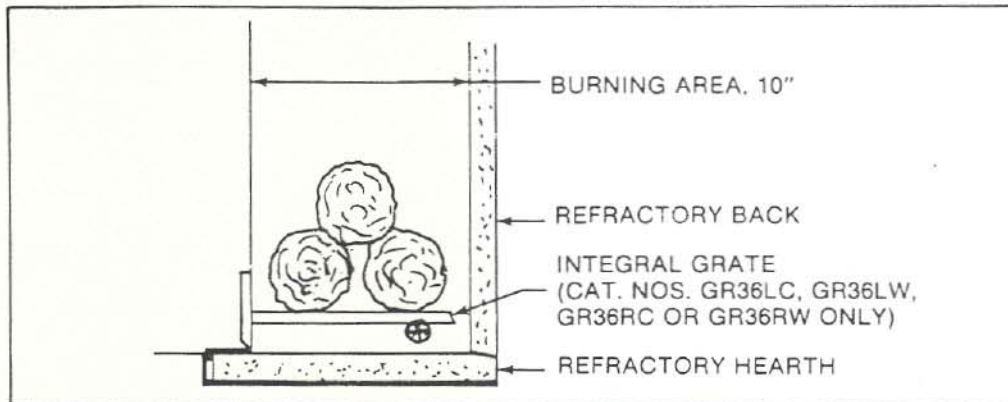

Figure 2
- E. **GRATE.** The factory installed Integral Grate must be used to hold the logs from falling out of an open fireplace and to allow air to pass between the burning logs. It is important to keep the fire off the hearth and to allow the ashes to collect beneath the fire, thereby forming a layer of additional heat protection. See Figure 2. Use only Catalog Number GR36LC or GR36LW (for L.H. fireplace), or GR36RC or GR36RW (for R.H. fireplace) Integral Grate for replacement.
- H. **SETTING THE FIRE.** Check the flue damper to be sure it is fully open. Place crumpled or twisted paper under the Grate. Loosely arrange kindling or small pieces of wood to form a layer above the paper. Place three logs in a rough pyramid as shown in Figure 2, being sure to allow free air space between the logs. Small sticks of wood may be used to separate the logs. NOTE: When heated the first time, the temperature of the fireplace must be raised gradually, to prevent moisture within the refractory from causing cracks, and to allow the binders in the insulation to dissipate.